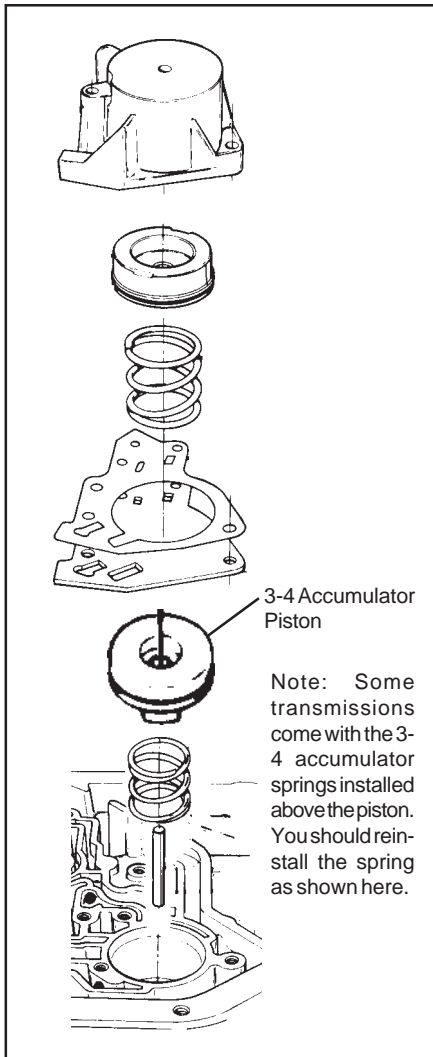

Fig. 9. Heavy Duty Level Accumulator Assembly Order.
STEP 11. Heavy Duty Level Only; Insert the 3-4 accumulator pin in the case. Over the pin place the spring and then the accumulator piston. Use a dab of grease or petroleum jelly to hold components in place (See Fig. 9.)
Install gasket, piston, spring and 1-2 accumulator housing in reverse order of removal. Tighten bolts finger tight (See Fig. 9.)